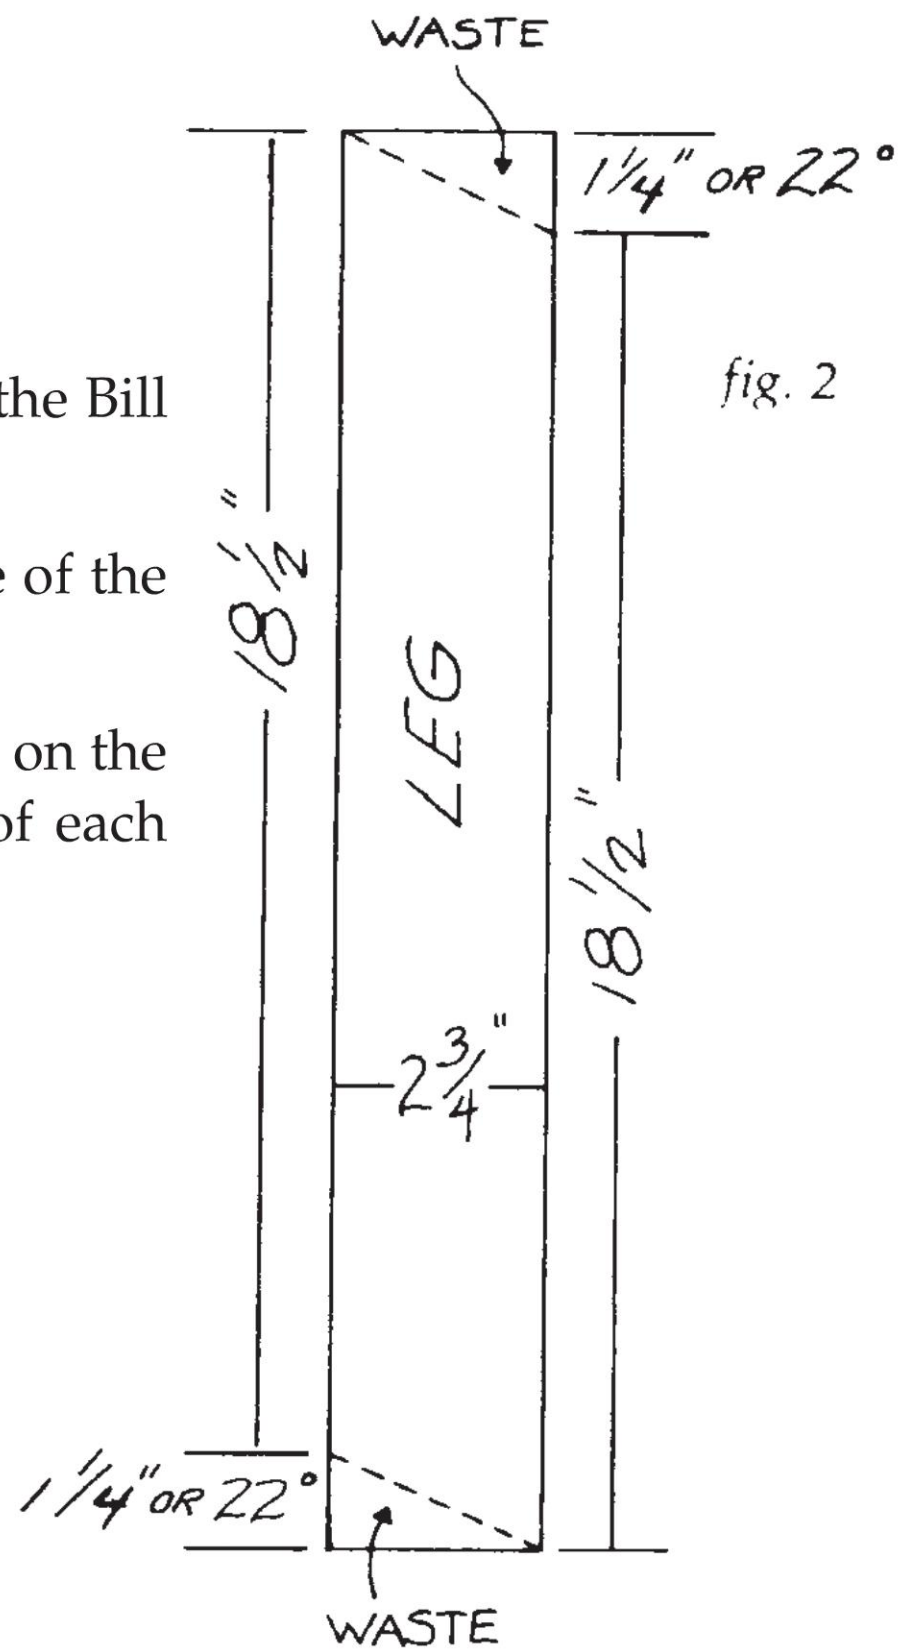

fig. 2
3. Lay out and cut the parallel angles on the ends of each leg. The finished length of each leg should be $18\frac{1}{2}"$. *fig. 2*.